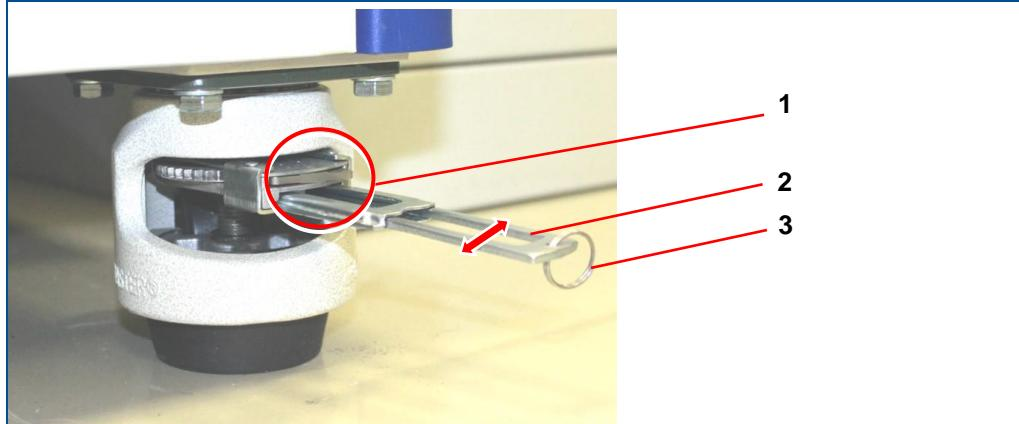

Fig. 47: Leveling foot
21. Remove the side transport supports (2).
22. Push all rocker switches (1) (see figure 47) **to the left** to raise the leveling feet and thus unlock the leveling feet.
23. Adjust all leveling feet using the adjustment levers (3) (see figure 47) until the system stands on all four wheels.
24. Push the adjustment levers (2) (see figure 47) back into their resting positions.